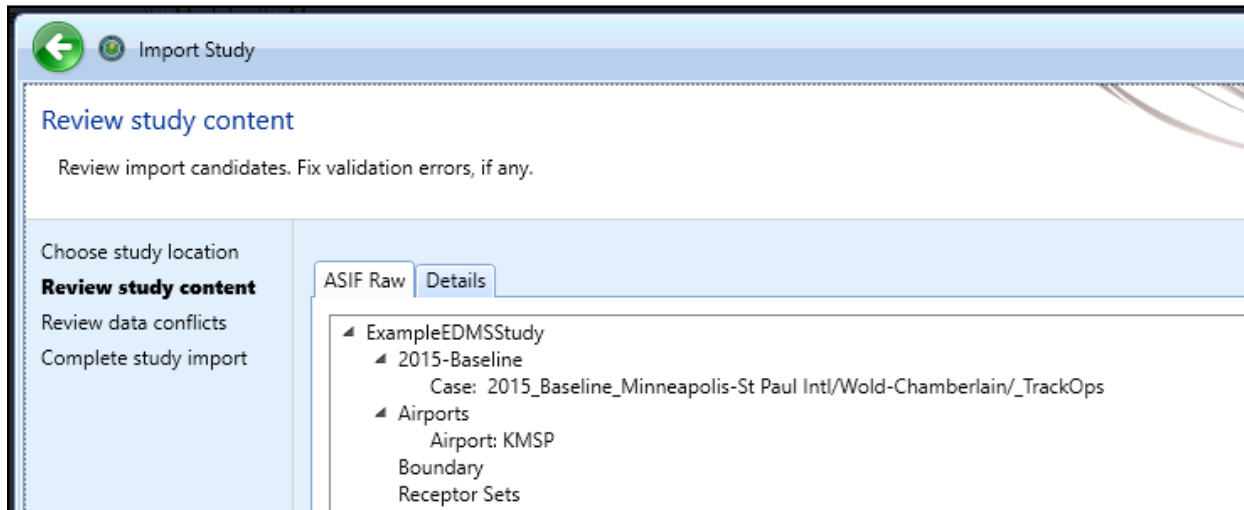
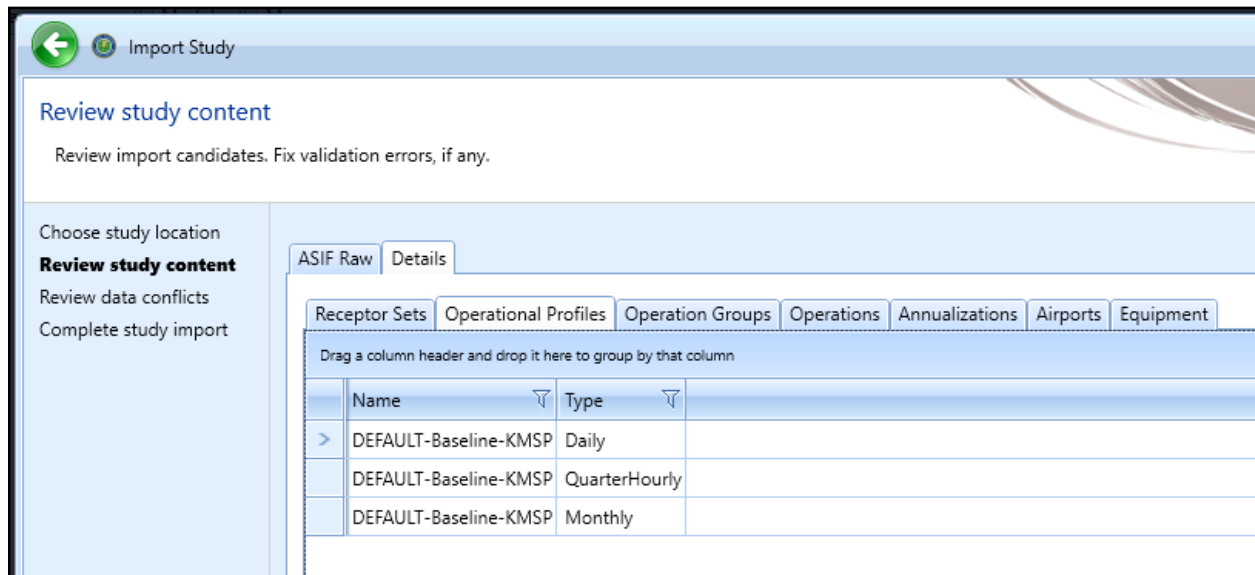

Figure 45. Review study content, ASIF Raw tab
Figure 46. Review study content, Details tab
- The *Details* tab displays a detailed view of the study content, organized by categories. (Figure 45 and Figure 46)